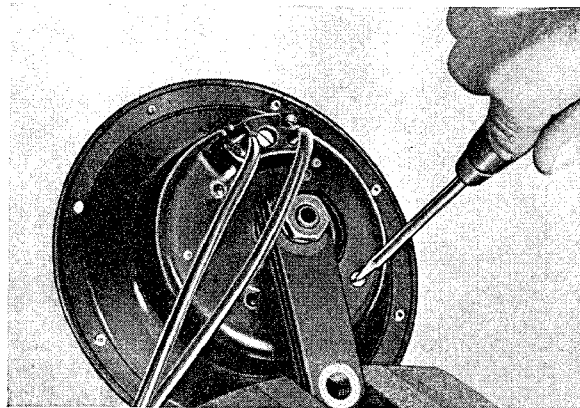

Fig. 69
2. Secure the base of the spring mount in a vise (Fig. 69).